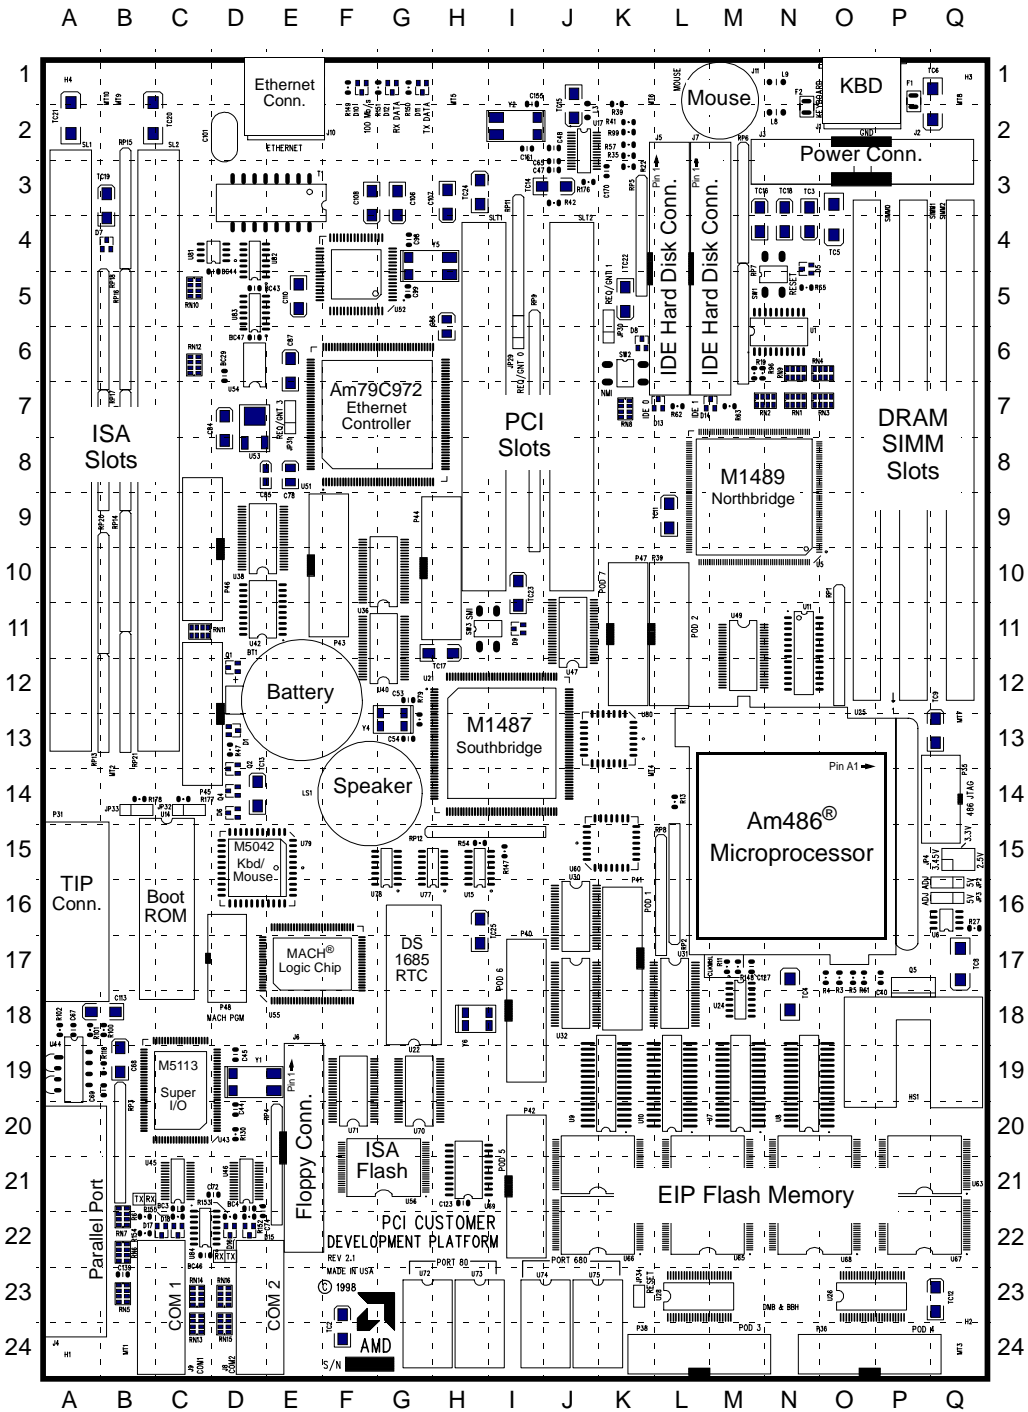

Figure 2-3. PCI CDP Layout
- Figure 2-3 on page 2-5 shows the platform layout and component locations.
The remainder of this chapter describes the features of the PCI CDP. The number in parentheses following each heading indicates the part's location in Figure 2-3 on page 2-5. In addition, other locations referenced can be found in the figure.
The CPU interface signals are buffered and routed to headers for a logic analyzer. The signals on the CPU bus logic analyzer headers are arranged to be compatible with the disassembler for the HP 16500 Logic Analyzer, but any analyzer can be used. Table 2-3 lists the available headers, their locations in Figure 2-3, and the Appendix B schematics sheet on which they appear. Sheet 4 of the schematics includes usage notes.